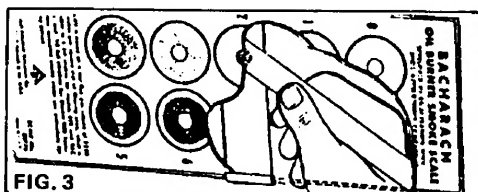

FIG. 3
(5) Match color of smoke spot on FILTER PAPER strip to the closest spot on 10 spot OIL BURNER SMOKE SCALE (RR-776). In comparing color of smoke spot to chart, slide FILTER PAPER strip between back of SMOKE SCALE and white plastic slide, viewing smoke spot on FILTER PAPER through window in center of color spots on SMOKE SCALE with smoke spot backed by white plastic slide (Fig. 3).
(6) Take additional samples required by clamping FILTER PAPER strip in slot so previous spot is visible outside slot.